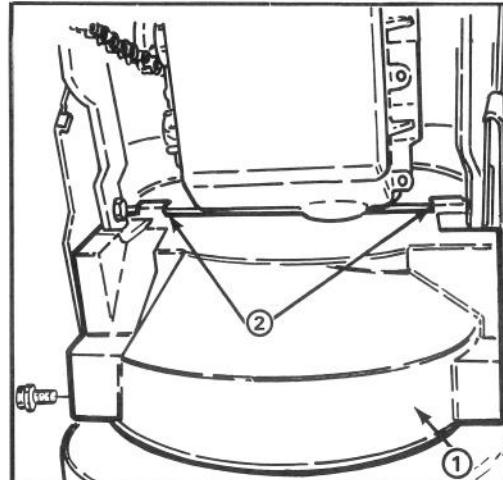

Figure 2
7. Mount lower belt cover to underside of auger housing and engine frame with (2) 1-1/4-20×1-1/2" lg. flange head capscrews (Fig. 2). Make sure belt cover mounting tabs are positioned to rear of engine frame member.